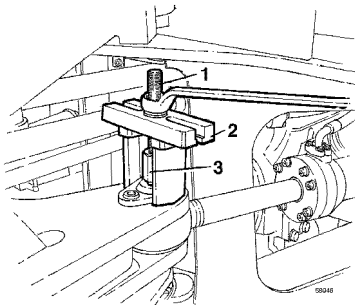

Figure 3
7. Detach the steering cylinder piston rods, see Figure 3.